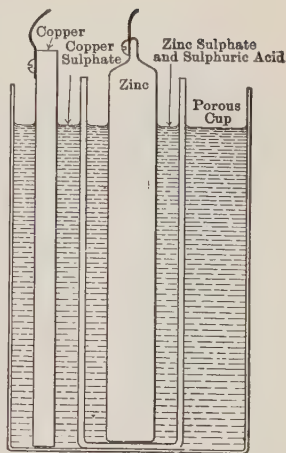
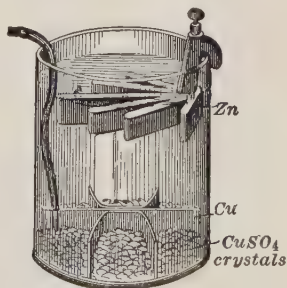

FIGURE 445. — DANIELL CELL.
FIGURE 446. — GRAVITY CELL.
**301. Daniell Cell.** — This is an early form of cell, designed to *prevent* polarization. In this cell, the copper is surrounded with a solution of copper sulphate. This solution is kept separate from the sulphuric acid by placing the zinc and sulphuric acid in a cup of unglazed porous porcelain, while the copper is immersed in the copper sulphate solution contained in the outer vessel (Figure 445). In the *gravity cell* (Figure 446), the two liquids are separated by the difference in their specific gravity. In either form of cell,  $\text{Cu}^{++}$  ions are repelled to the copper plate instead of  $\text{H}^+$  ions. This copper is deposited on the copper plate, simply adding to its weight without changing its character. So no polarization will take place as long as the supply of copper sulphate is maintained. Such cells are used in "closed-circuit" work, such as the local battery in telegraph lines.